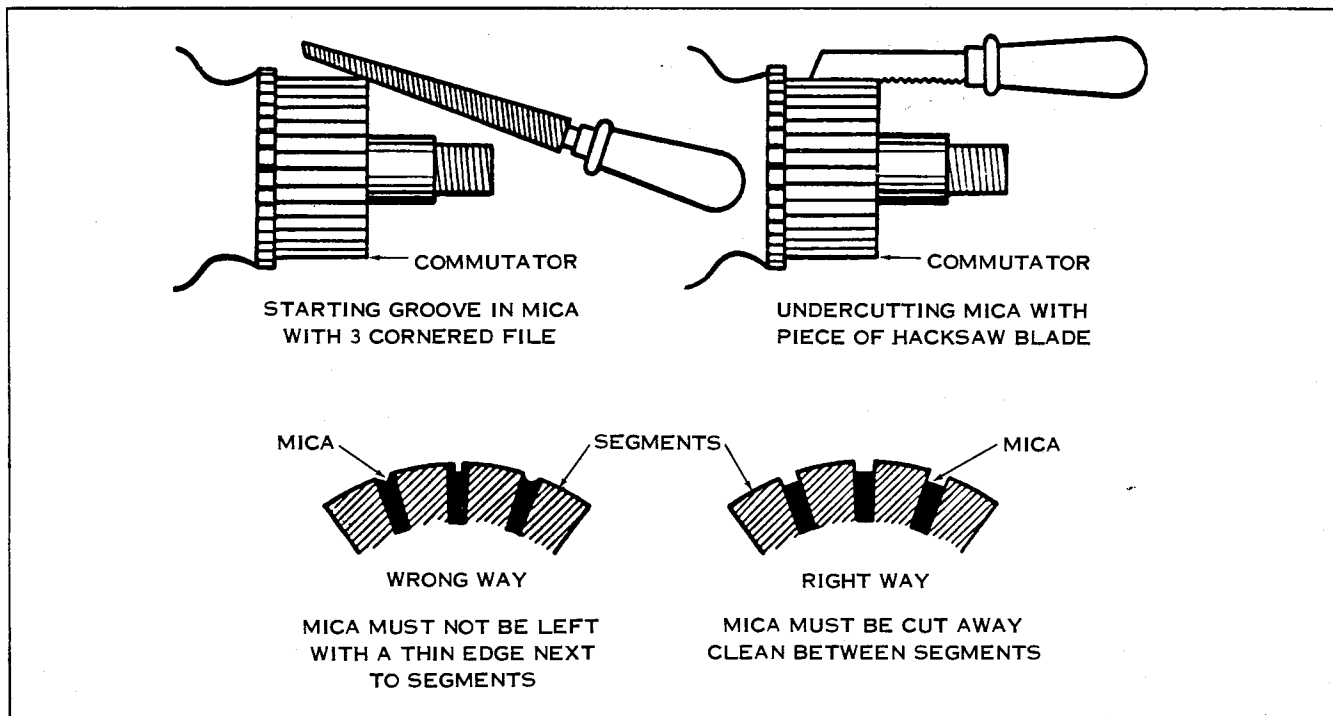

Figure 5E-27L. Recessing Mica Separators
**REASSEMBLING STARTER-GENERATOR (Fig. 5E-27F SIBA, 5E-27H BOSCH AND 5E-27I HITACHI**